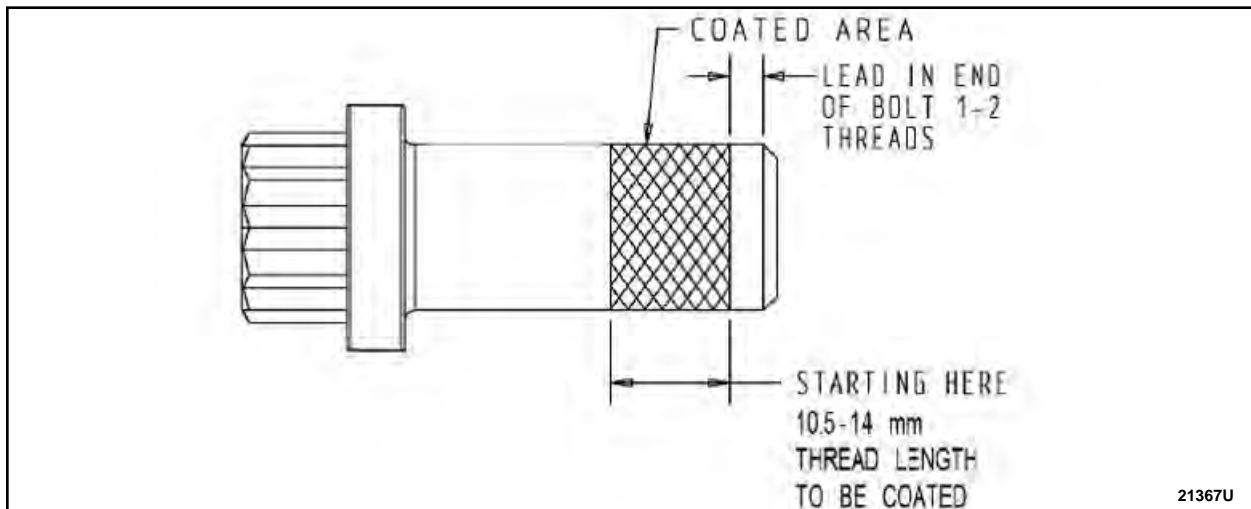

FIGURE 20
23. Inspect the original driveshaft flange to pinion flange bolts for rust in the threads and replace if rusted or damaged. Clean threads of the original driveshaft flange to pinion flange bolts with a wire brush and coat the threads with LOCTITE 243 Blue Medium Strength Threadlocker or equivalent. See Figure 20.